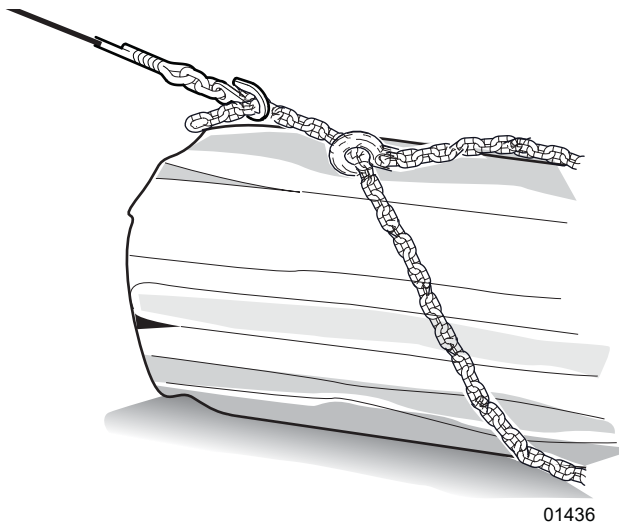

Figure 27—Choker chain
7. Wrap the cable (only if it has a forged end), choker chain, or synthetic choker around the log. For example, see *Figure 27 on page 32*.